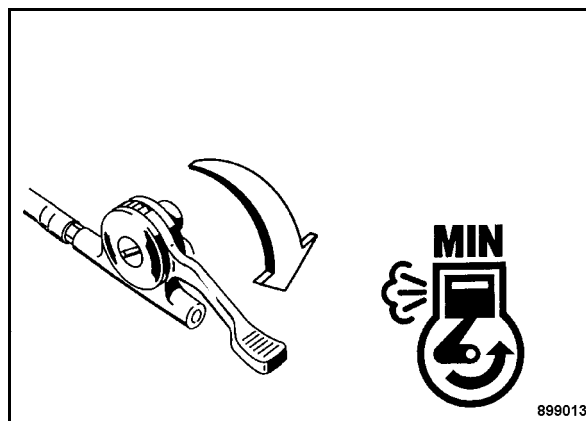

Fig. 28
- Shift the throttle lever (Fig. 28) to position "MIN".